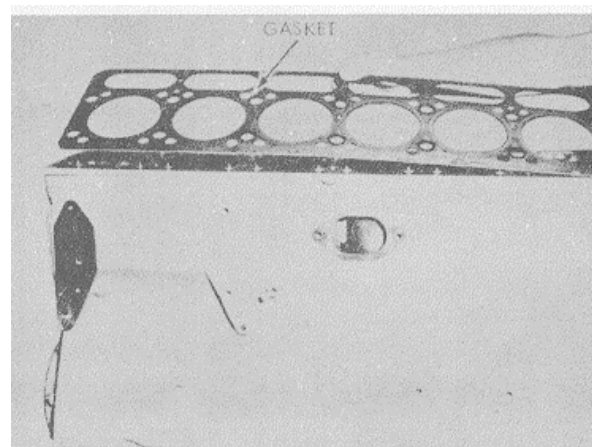

Figure 3-131. Installing cylinder head gasket.
(5) Install head gasket over dowels, figure 3-131, being careful not to dislodge grommets and/or retainers; be sure the word "top" is on top side of gasket.